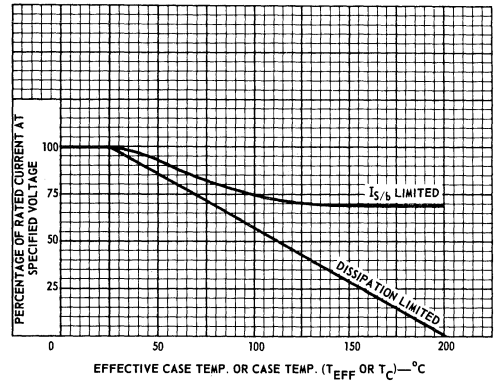

Fig. 4
Second breakdown is much less sensitive to temperature variations than normal power-dissipation limitations. Therefore, separate temperature derating curves are required for these two limiting factors as shown in *Fig. 4*. For operation at temperatures greater than 25°C, *Fig. 4* and *5* (2N3878) or *Fig. 4* and *6* (2N3879, 2N5202) are used to obtain the maximum allowable power. This is done as follows:
- (2) Refer to *Fig. 4* and from the "DISSIPATION LIMITED" curve determine the percentage current derating at the specified temperature. Apply this derating to the value of  $I_C$  from step (1), to obtain the maximum current for dissipation-limited operation.
- (3) If the specified value of  $V_{CE}$  required the use of a dashed-line extension of a dissipation-limited curve in step (1), then repeat step (1), using the curve marked "IS/b LIMITED".
- (4) Repeat step (2) using the IS/b-LIMITED curve in *Fig. 4*.
- (5) The maximum allowable current is the smaller of the two values obtained in steps (2) and (4).
For repetitive-pulse operation, the effective case temperature ( $T_{EFF}$ ) to be used in *Fig. 4* is the sum of the maximum ambient temperature, the rise in case temperature, and the rise in junction temperature resulting from the average transistor power dissipation.